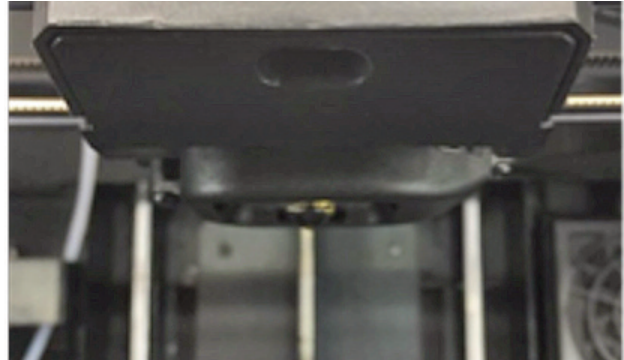

Figure 14. Leveling arm in stowed position.
- vii. If the arm makes a hitting sound or rebounds back while stowing, then it is stowing too high. In that case, press + to increase angle of stowing in front of “up”. The arm should be stowed as shown in the Figure 14 below, such that it doesn’t expose or rebound.